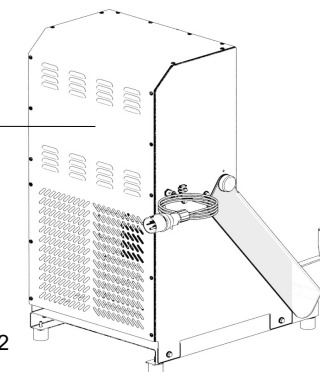

Fig. 1.7.2
1.7.1 - Warning and danger signs (Fig. 1.7.2)